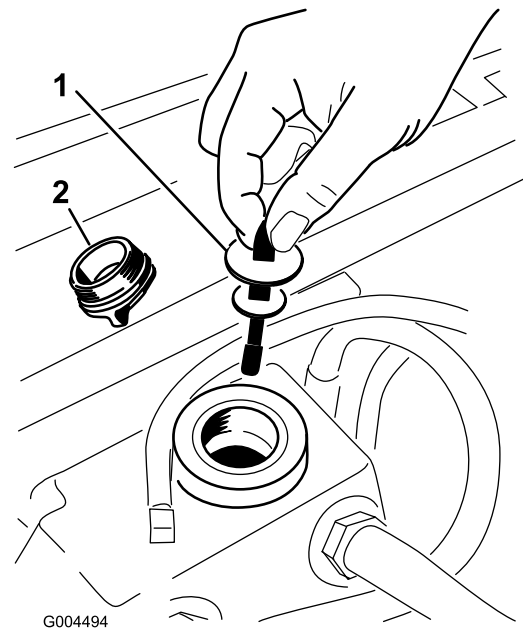

Figure 61
5. Remove the hydraulic fill cap from the filler neck (Figure 61).
6. Remove the dipstick and wipe it with a clean rag (Figure 61).
7. Place the dipstick into the filler neck; then remove it and check the level of fluid (Figure 61).